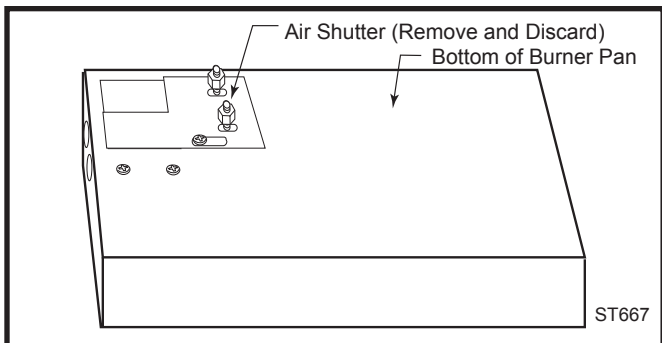

Fig. 17 Remove air shutter and discard.
3. Turn burner upside down and remove air shutter. Discard air shutter. (Fig. 17)